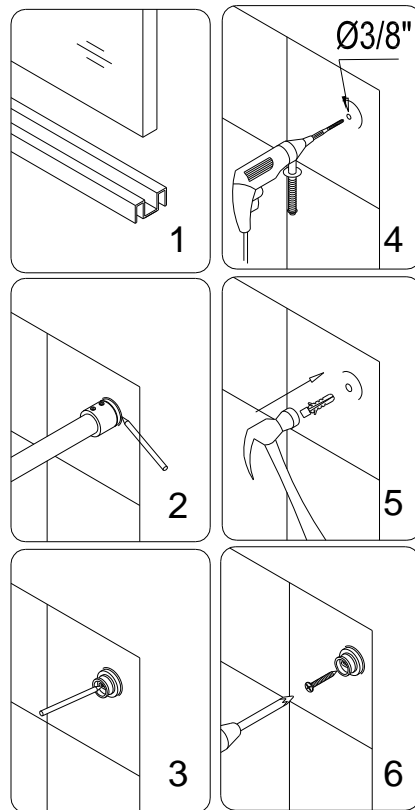

Fig. 8
b) Slide the **Wall brackets** on the rail against the walls and mark their positions with a pencil. Take off the glass panel. Using the **Wall brackets** mark the holes for drilling on the walls and drill the holes. Insert the **Large anchors 3/8" (9)** and screw the male parts of the **Wall brackets** onto both walls using the **Round head screw ST6x45 (10)**. See fig. 8 for details.